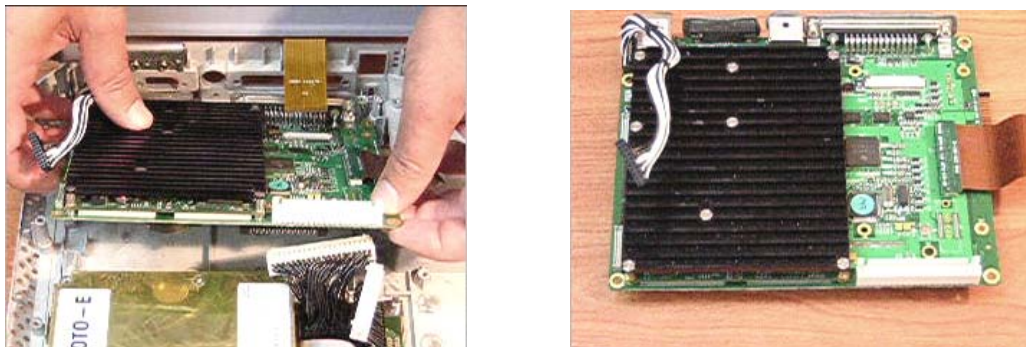

Figure 8-35 Removing the BEP from the Bottom Assembly
- 1) Carefully return the new BEP to the original position on the Bottom Assembly - refer to Figure 8-35 on page 8-35 .